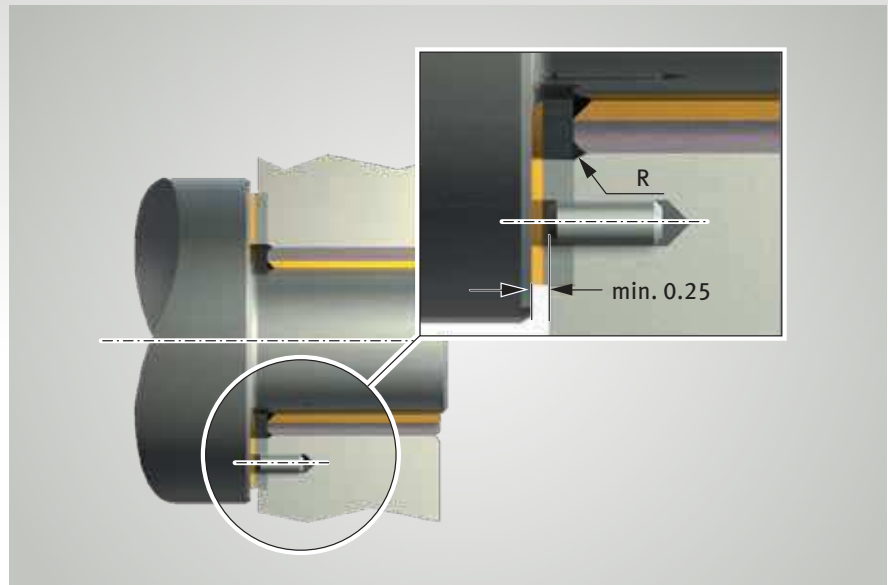

Fig. 3: Attaching a PAW thrust washer in a recess in the housing
- A concentric fit is ensured by the recess in the housing (Fig. 3)
- Unwanted rotation with the shaft is prevented by means of a register pin or countersunk screw (Figs. 3 and 4)
- The screw head or register pin must be recessed by min. 0.25 mm from the sliding surface (Figs. 3 and 4)